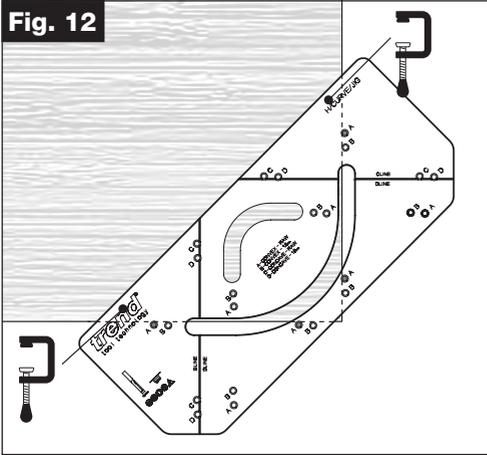

Fig. 13
- Complete the cut by routing the curve (in 8mm depth passes), ensuring that the router is pushed against the edge of the curve closest to the worktop at all times (Fig. 13).